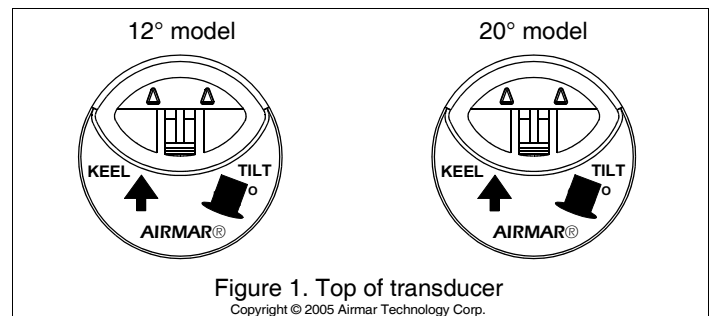
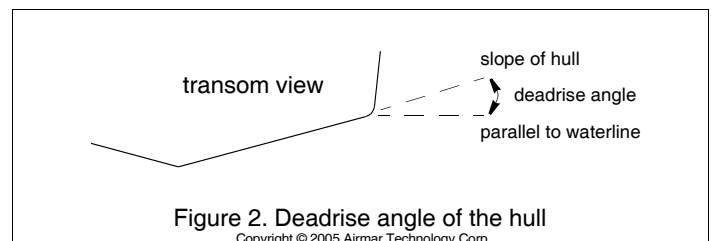

Figure 1. Top of transducer
Figure 2. Deadrise angle of the hull
Be sure the tilt angle of your transducer model matches the deadrise angle of your boat at the mounting location. The tilt angle is printed on the top of the transducer (see Figure 1). To measure the deadrise angle of your hull at the selected mounting location, use an angle finder (see Figure 2).
3. From inside the boat, slide the washer and hull nut along the cable and onto the housing (see Figure 6). **Be sure the arrow on the top of the transducer (and the cable exit) is pointing toward the KEEL/centerline of the boat** (see Figure 1). This will align the angle of the element inside the transducer with the deadrise angle of the hull.